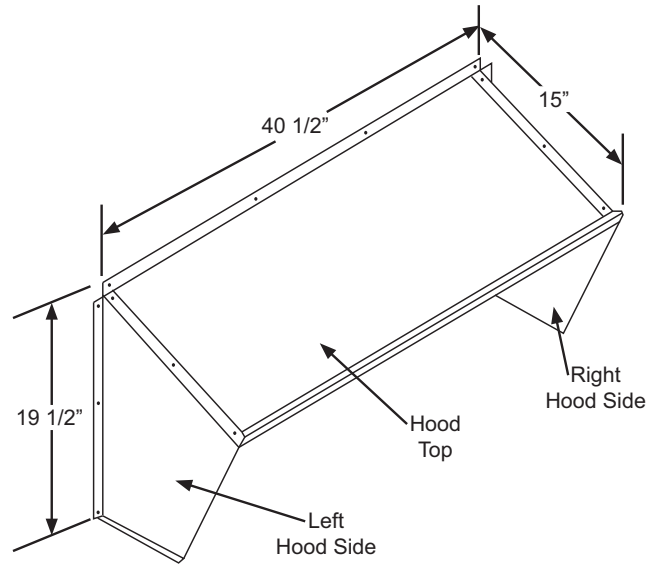

Fig. 2 - CRBARHOD001A00 Hood Sides and Top
6. Using the provided hardware, screw the CRBARHOD001A00 hood 6. sides and top together. (See Fig. 2.)